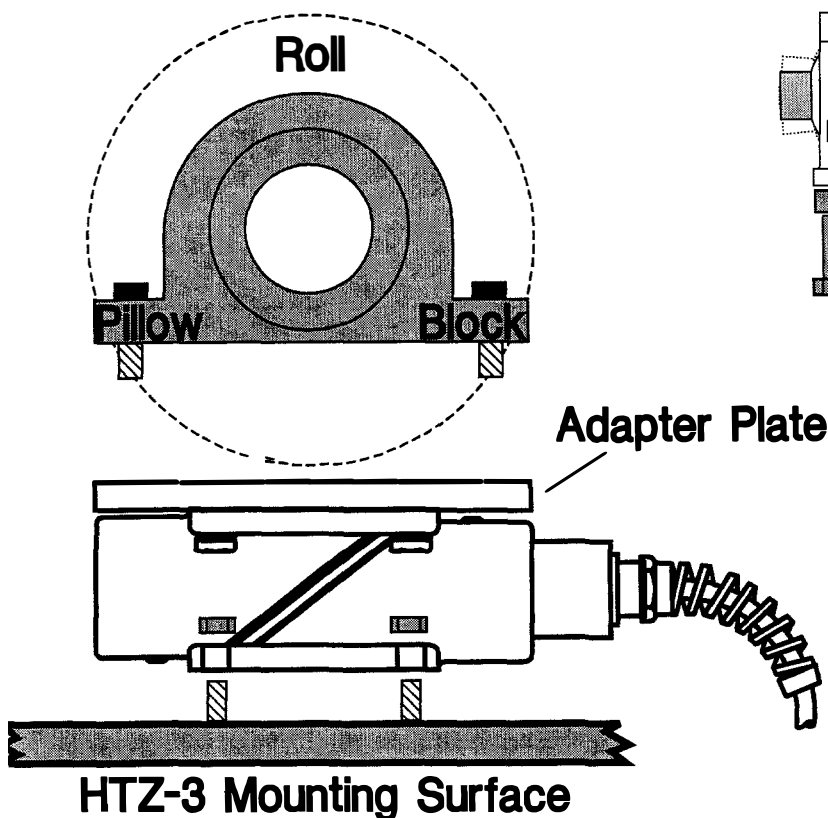

Figure 2-3. HTZ-3 Installation Arrangements
(4) **Mechanical Installation** (Figure 2-3): Raise the pillow block/roll assembly and install the tension module in place on the HTZ-3 mounting surface (foundation). Before bolting down, be sure that the HTZ-3 mounting surface is uniformly supported and level. Lower the pillow block/roll assembly onto the module adapter plate and bolt in place. Avoid dropping the pillow block/roll assembly onto the modules. Tighten all mounting bolts to the bolt manufacturer's recommended torque specification. Repeat for the opposite side of the roll. Following installation, do not perform arc welding on the equipment or any support structure electrically in contact with the tension modules.